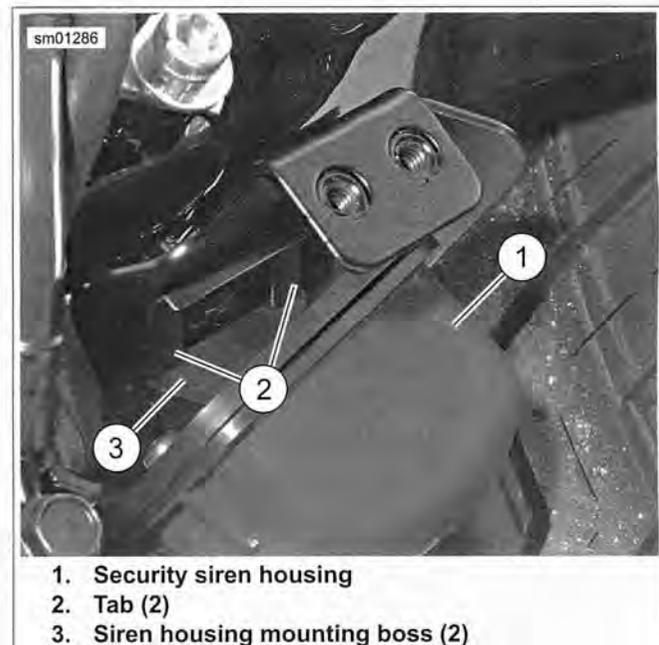

Figure 6-127. Security Siren Mount (guard removed for clarity)
2. See Figure 6-127. Gently pry up on two tabs (2) while pulling siren housing (1) toward the left side of the motor-cycle. This will disengage siren mounting bosses (3) from mounting bracket. Allow siren assembly to drop down and remove from vehicle.